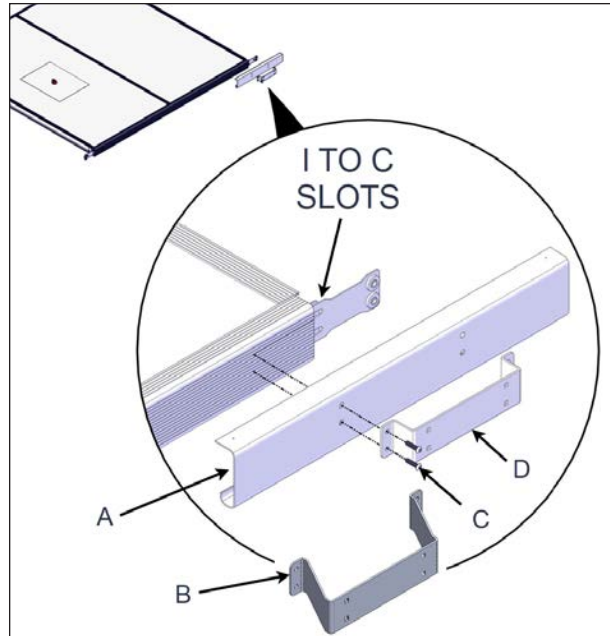

FIGURE 34: POST MOUNT BRACKET INSTALLATION
11. Refer to Figure 34 for this step. Align the holes of the support bracket (item A), the holes of the post mount bracket (item D), and the holes of the long C-channel by hand. Assemble them with two 1/4" x 1" socket head screws. Tighten to a torque value of 5 ft-lb.
For some spas, optional dual side brackets (item B, Figure 34) are needed to mount the cover to the posts. The installation of these brackets is made the same way as for the post mount brackets described in the previous step.